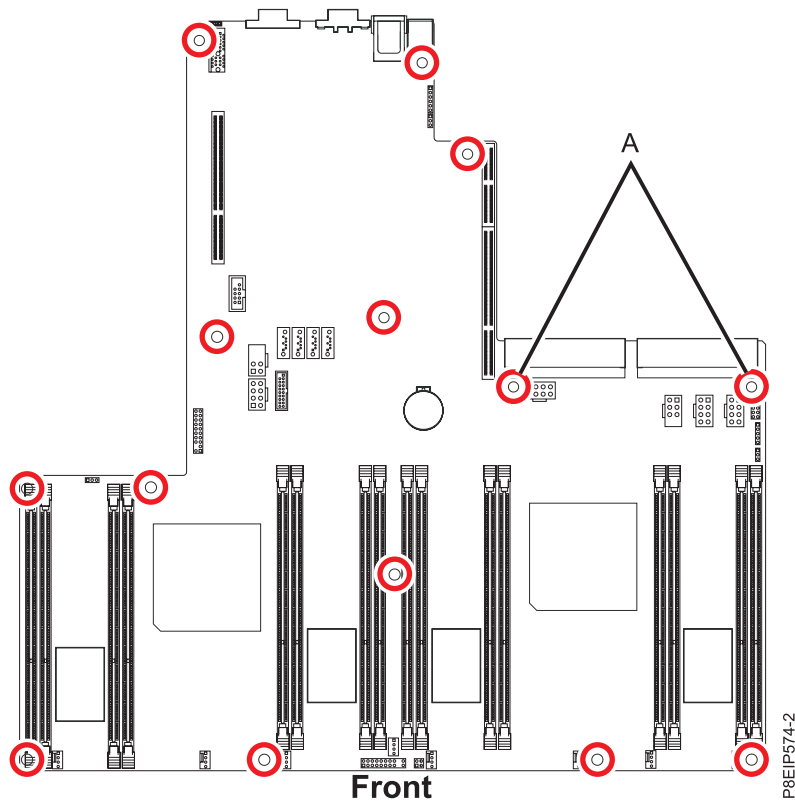

Figure 58. Screw locations. The two screws at **(A)** are black and slightly longer.
13. Align and screw the 14 screws into the system backplane. The screw locations are shown in Figure 58 on page 51.